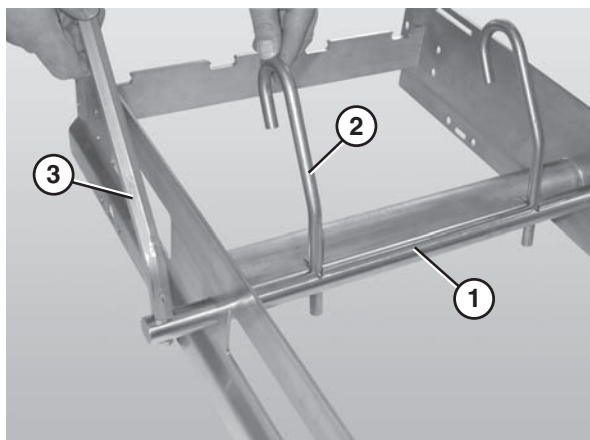

Figure 29
1. Slide the belt lift pivot bar (**Figure 29, item 1**) through the designated holes in the frame. The pins on the pivot bar should be located to the inside of the frame side rails.
2. Attach the lifter bars (**Figure 29, item 2**) to the belt lift pivot bar (**Figure 29, item 1**). Make sure the hooked ends of the lifter bars are facing down when resting against the frame.
3. Attach the lifter handle (**Figure 29, item 3**) to the belt lift pivot rod.